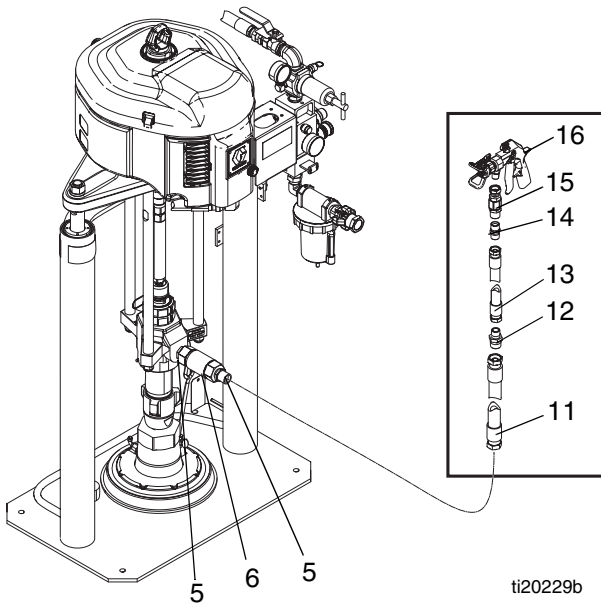

FIG. 6
**NOTE:** Kit 24P832 includes items 5, 6, and 11-16 in FIG. 6.
1. If installing mix line and gun kit 24P832, install nipple (5), check valve (6), and second nipple (5) onto the pump outlet as shown in FIG. 6.
2. Connect the supplied 3/4 in. hose (11) to the nipple (5). See FIG. 6.
3. Use reducing nipple (12) to connect the supplied 1/2 in. whip hose (13) to the 3/4 in. hose (11).
4. Use nipple (14) to connect gun swivel (15) to whip hose (13).
5. Connect gun (16) to gun swivel (15).